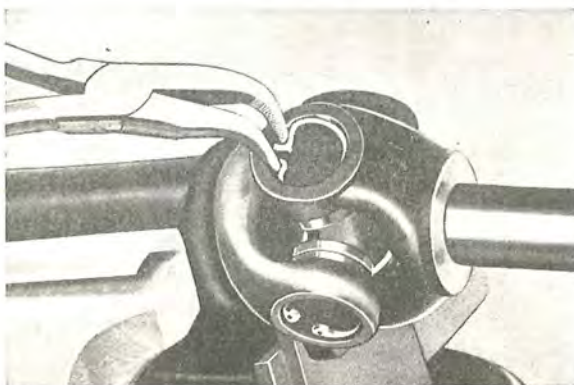

Fig. 4-61. Removing the snap ring
1. Remove the snap rings securing the needle bearings in the yokes, see Fig. 4-61.